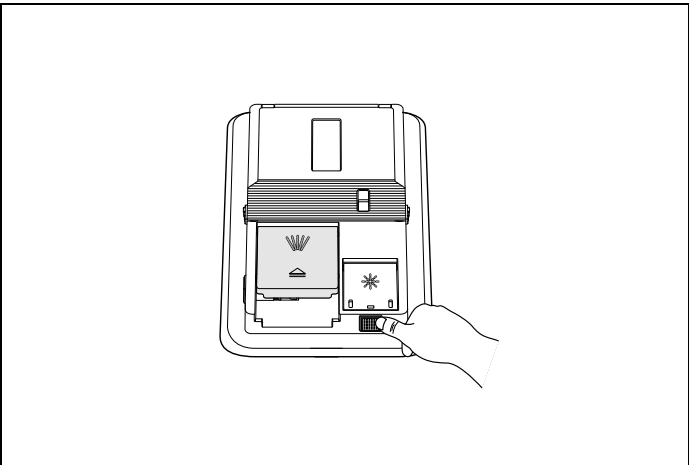

Fig. 72
- 2) Fill the compartment with rinse-aid to the MAX level and then close the cap. Be careful not to overfill the rinse-aid compartment and wipe any spills Fig. 72 .